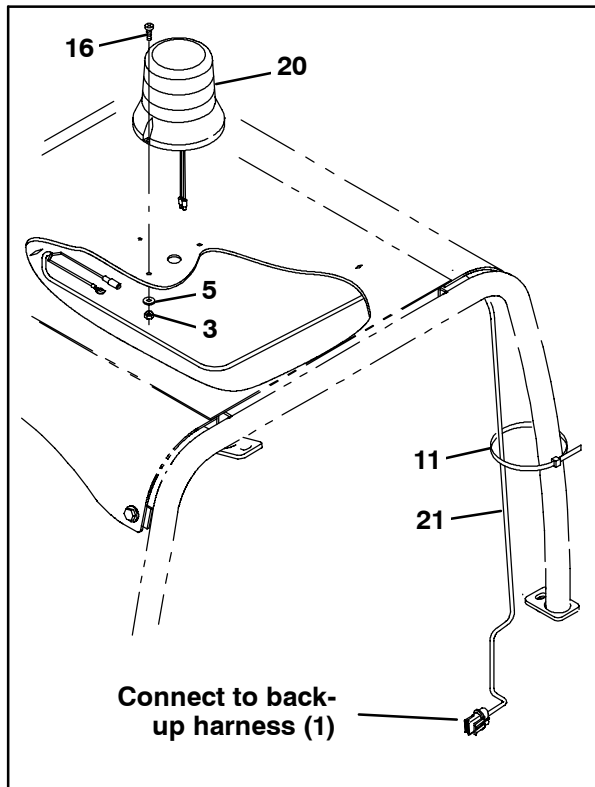

FIG. 3
- Machines with overhead guards:** Use two pan screws (16), two washers (5), and two hex nuts (3) to install the light (20) onto the overhead guard. Refer to Fig. 3.
- Machines with overhead guards:** Route the overhead light harness (21) down the rear leg of the overhead guard and into the engine compartment. Refer to Fig. 3.
- Machines with overhead guards:** Use cable ties (11) to secure the overhead light harness (21) to the rear leg of the overhead guard. Refer to Fig. 3.